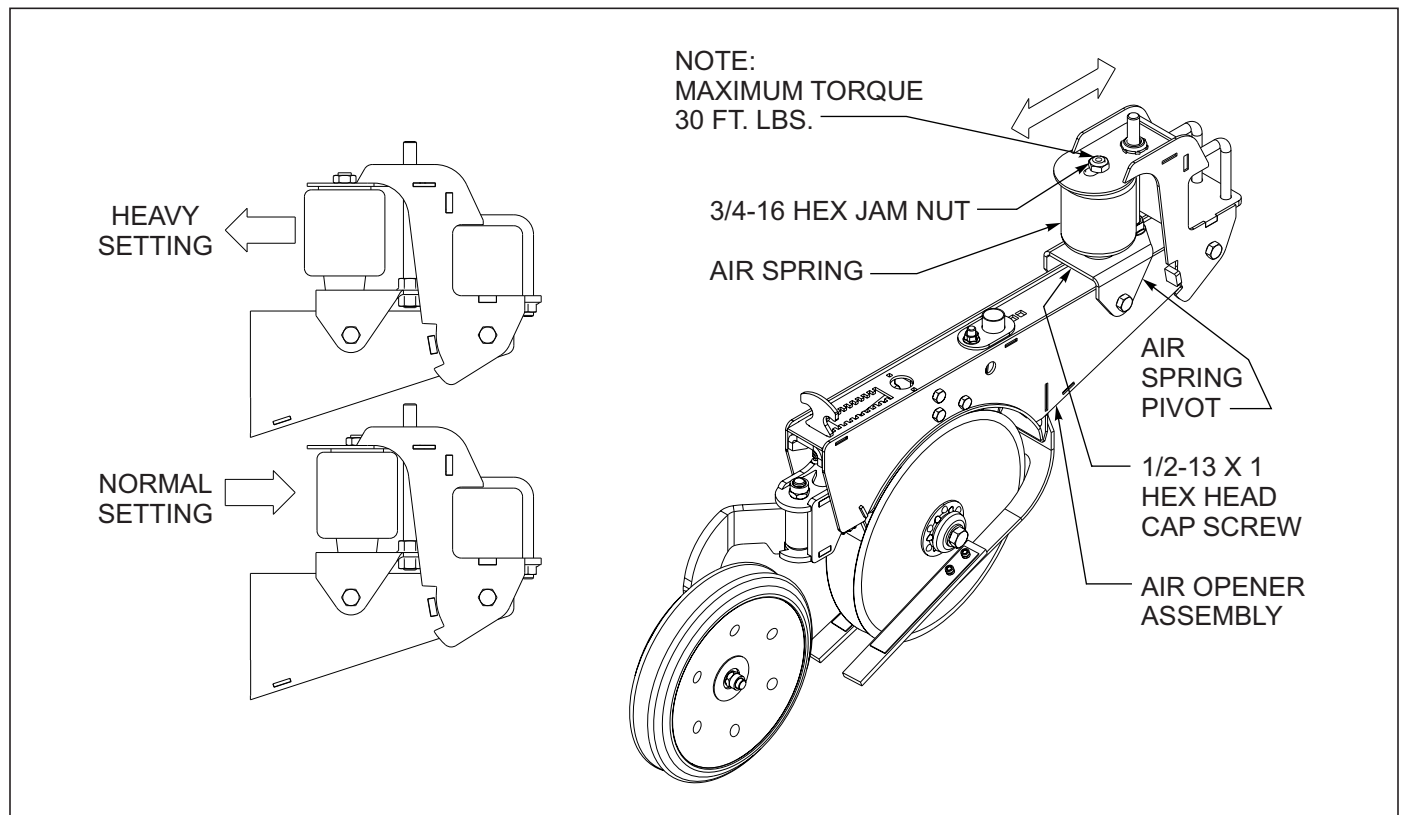

Figure 4-25: Air Spring Adjustment
2. To adjust the air spring location, first relieve the system air pressure. Loosen, but do not remove the 3/4-16 hex jam nut at the top of the air spring and the 1/2-13 x 1 hex head cap screw below the air spring and air spring pivot. Slide the air spring forward or rearward to the desired location (*See Figure 4-25.*)